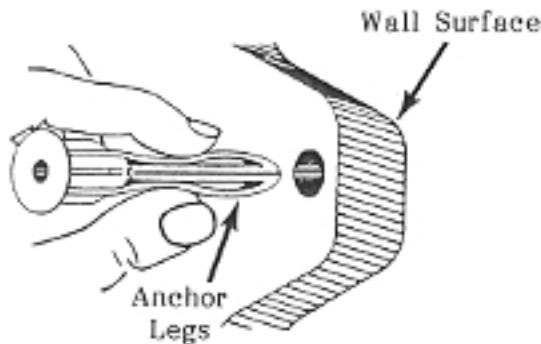

FIGURE 3
01.21 Press the anchor legs of the togglers together, and insert them into the anchoring holes (Figure 3) until their neck flanges are flush with the mounting surface. If insertion is difficult, tap them lightly with a hammer.